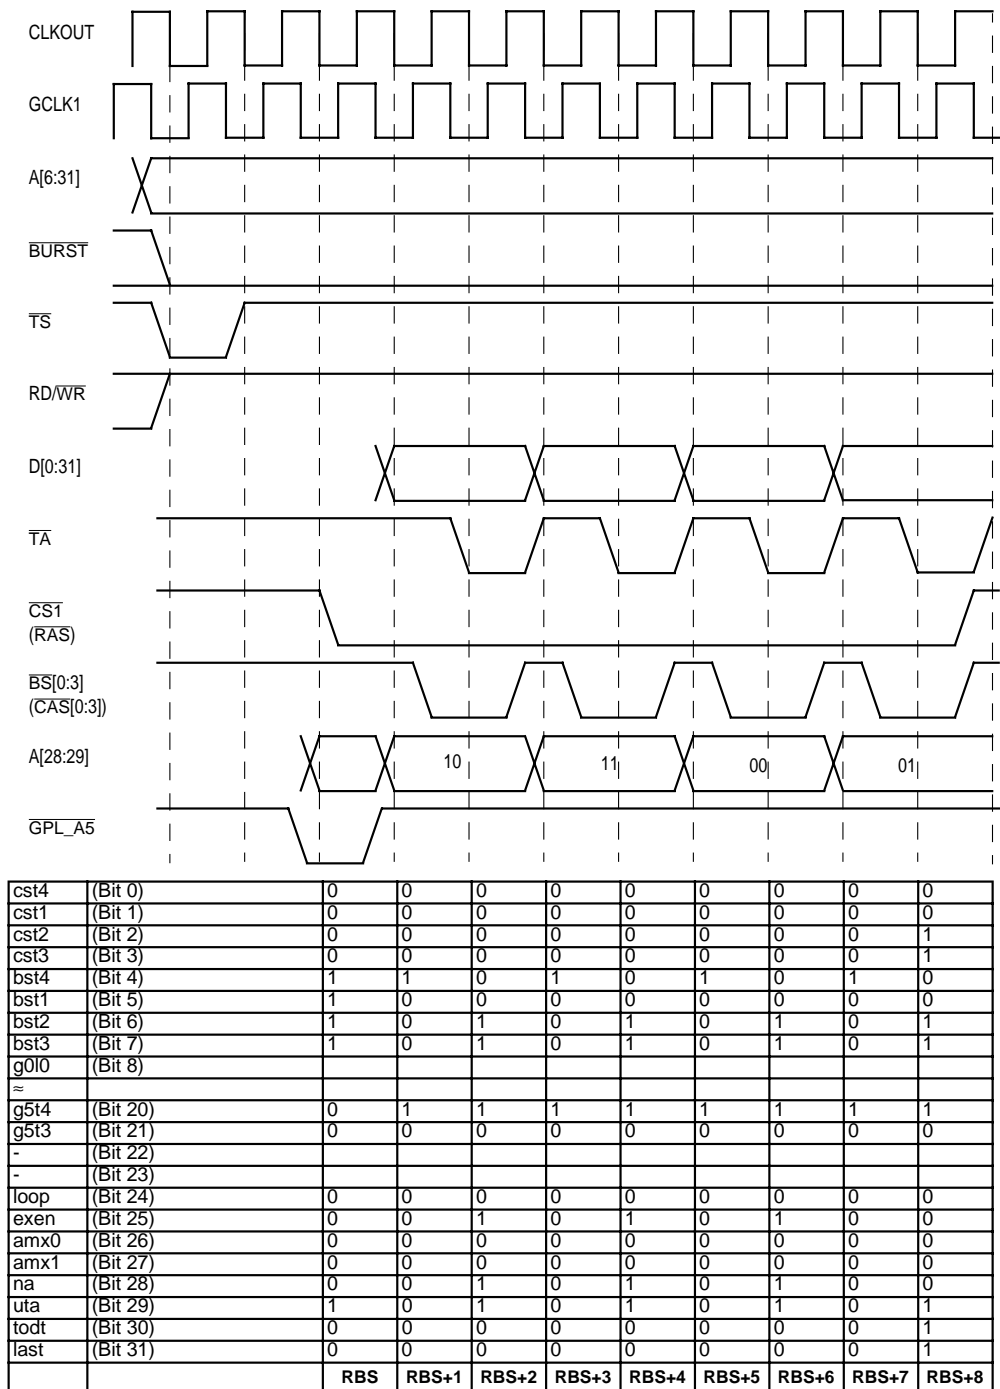

Figure 15-38. Synchronous External Master-Burst Read Access To Page Mode DRAM
A synchronous example interconnection in which an external master and the MPC823e can both share access to a DRAM bank is illustrated in Figure 15-37. Notice that  $\overline{CS1}$ , UPMA, and  $\overline{GPL\_A5}$  were chosen to assist in the control of DRAM bank accesses. To perform burst accesses initiated by the external master or MPC823e using this configuration, the A[28:30] signals are connected to the multiplexer controlled by  $\overline{GPL\_A5}$ . Figure 15-38 illustrates the timing behavior of control signals when an external master to a DRAM bank initiates a burst read access. The state of the  $\overline{GPL\_A5}$  pin in the first clock cycle of the memory device access is determined by the value of the G5LS bit in the corresponding option register. In this example, the accessed critical word is addressed at A[28:29] = 10, which then increments and wraps around to the word before the critical word (01) for subsequent beats of this burst access.